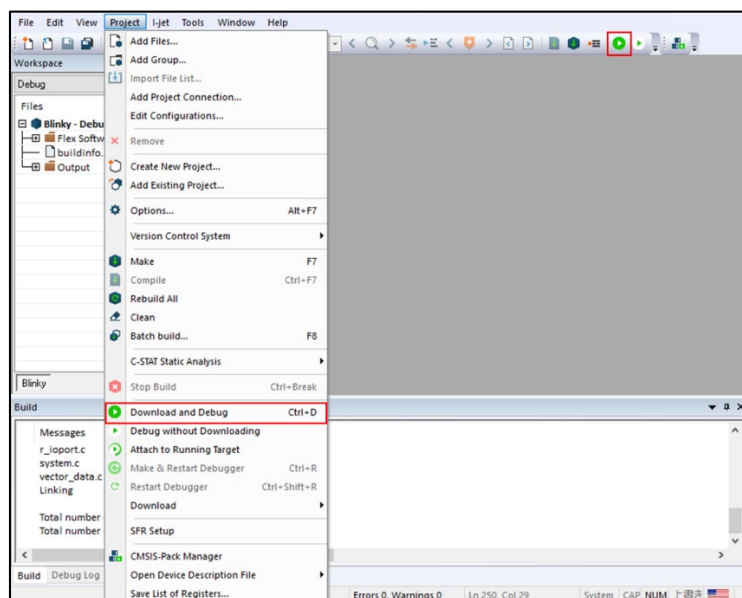

Figure 77 : Download and Debug Button
5. Run the program of primary project as shown in Figure 77 to copy the binaries of the secondary and subsequent projects to the internal RAM in the primary project. After the primary project reaches **hal\_entry** in **main.c**, another core is executed. If the LEDs are blinking, proceed to the next step.